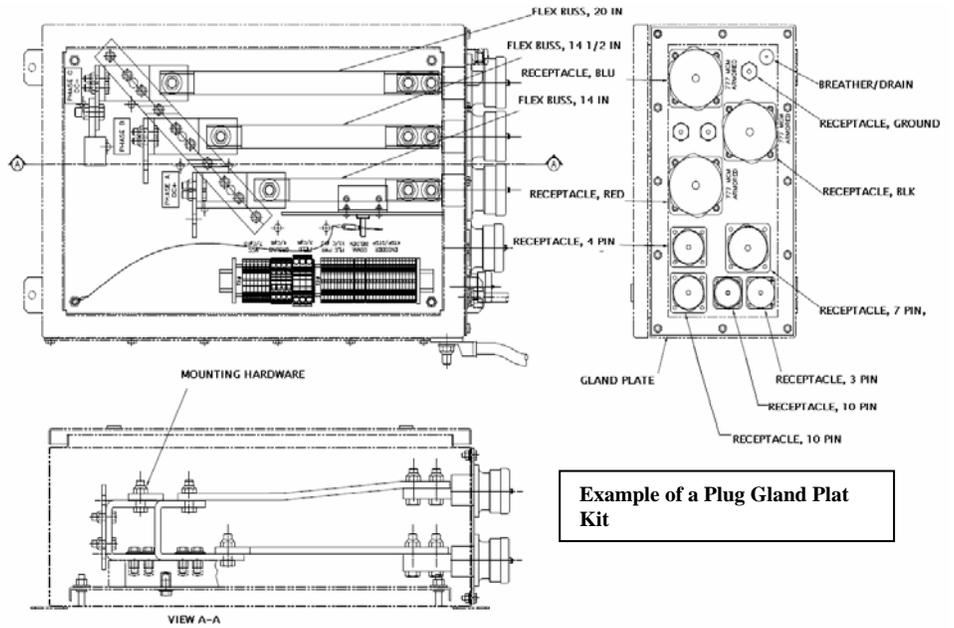

Figure 11
10. On later model Top Drives the J-Box are equipped with Gland Plates (see Figures 11 & 13); Canrig recommends the purchase of a Plug Gland Plate Kit. This kit will substantially improve the Torque Guide J-Box (if applicable) in the following ways: